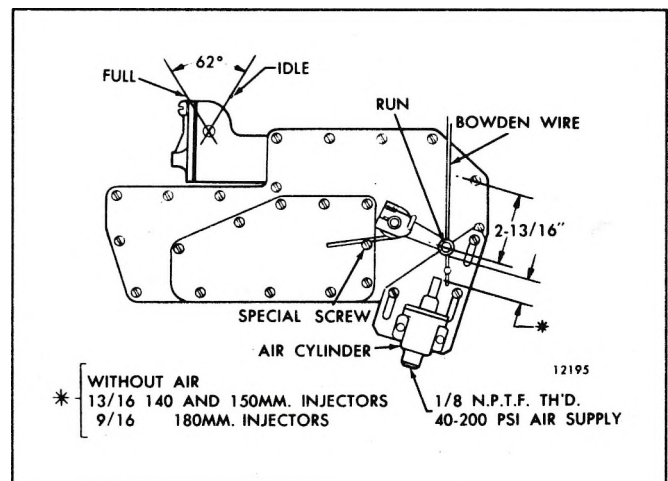

Fig. 7 - Positioning Manually Operated Stop Lever
Refer to Figs. 7 and 8 and position the starting aid air cylinder as follows:
3. With the governor stop lever properly positioned as outlined above, observe the slots in the mounting bracket and position the air cylinder to provide the air cylinder piston-to-governor stop lever clearance indicated in Figs. 7 and 8.
Refer to Fig. 7 and position the manually operated governor stop lever as follows:
2. Then loosen the stop lever and position it so that the centerline of the lever is 2 13/16" from the centerline of the cover screw as indicated in Fig. 7.